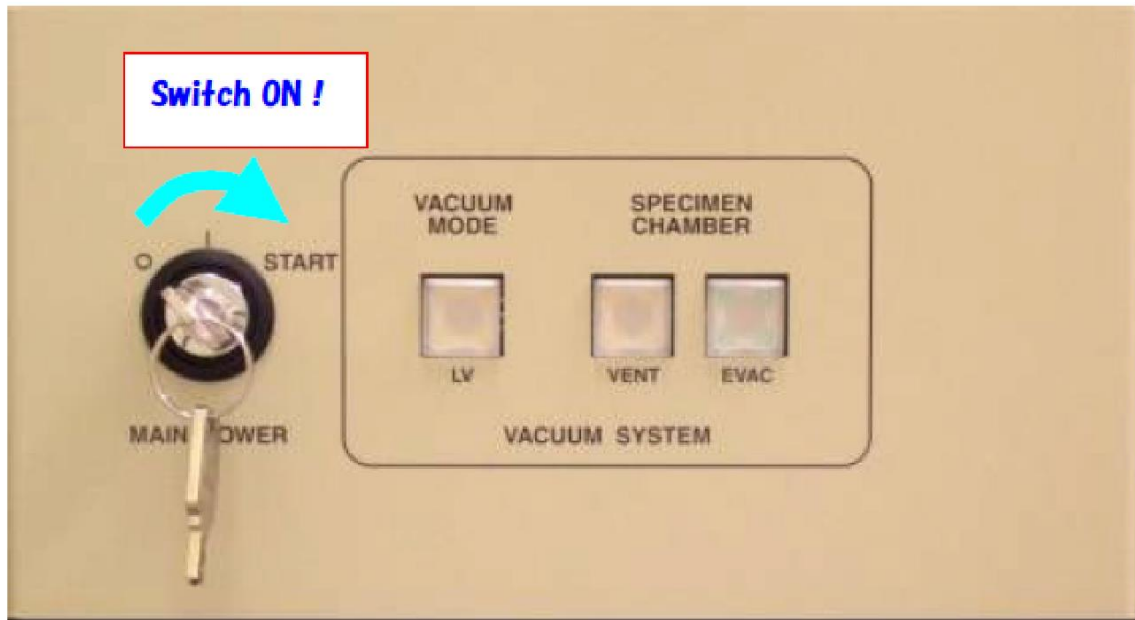

Figure 9: Detail of the front control panel on the SEM cabinet.
8. Insert the key and turn it to the “START” position (see Figure 9), then release (the key will stop at the “I” position). The pump will turn on and the system will begin pumping down the sample chamber (indicated by flashing “EVAC” light on the front panel of the SEM cabinet).